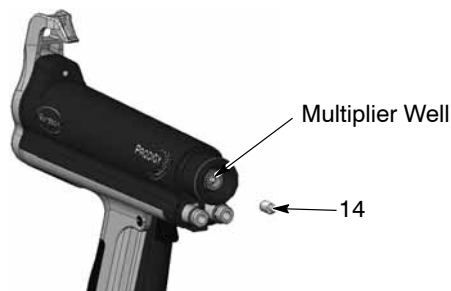

Figure 26 Removing the Contact Spacer
7. See Figure 26. Remove the contact spacer (14) from the multiplier well. Wipe the dielectric grease off the contact spacer.
3. See Figure 26. Insert the contact spacer into the multiplier well. Fill the multiplier well with dielectric grease.